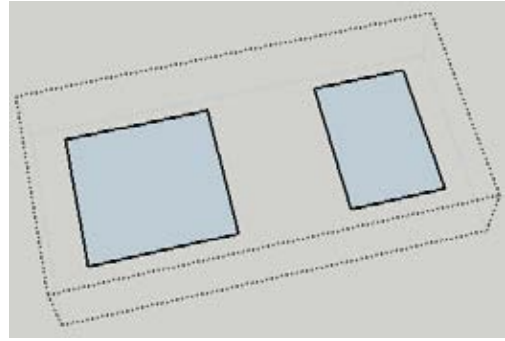

Figure 6-38
10. Erase everything in the group except for the offset faces (Figure 6-38).